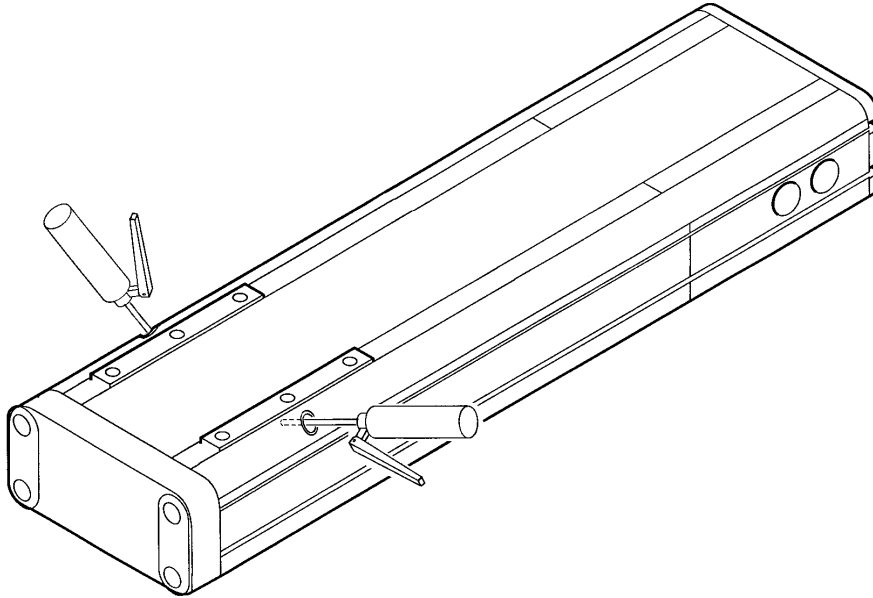

Figure 7-2. Greasing an H-Type Module
3. Locate the grease nipple inside the frame, and deposit approximately 20 cc of grease with a grease gun (Figure 7-2).